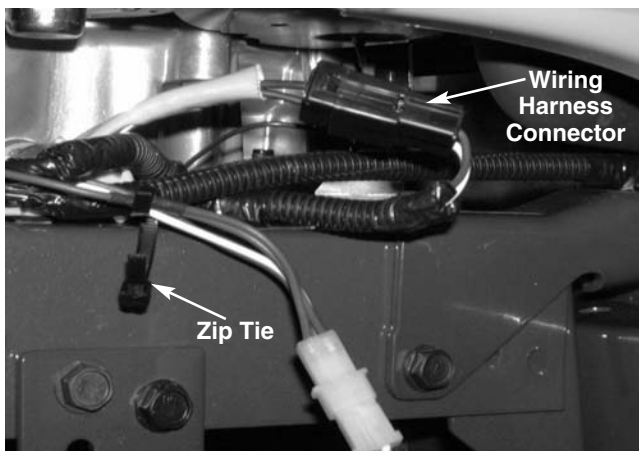

FIGURE 7.
- 8). Carefully disconnect the wiring harness connector from the electric PTO clutch assembly. See figure 7.